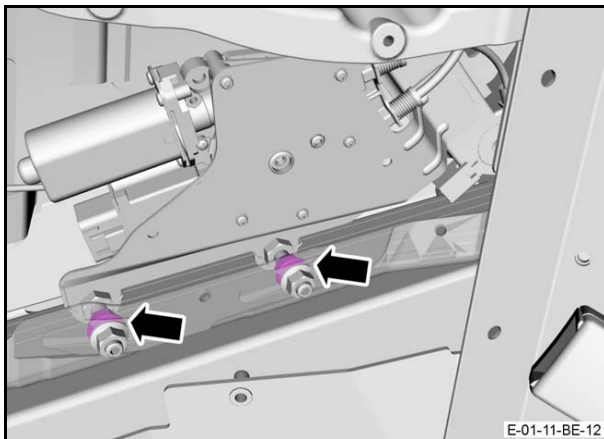
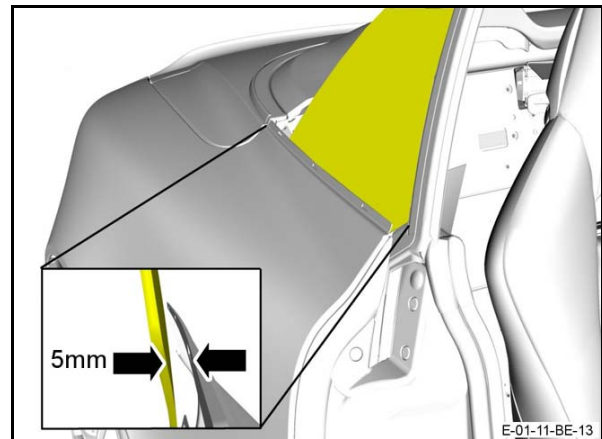

Figure 19
Figure 20
14. Adjust the two inner attachment nuts until there is a 5 mm clearance between the glass and the vehicle body (Refer to Figure 19 and Figure 20).